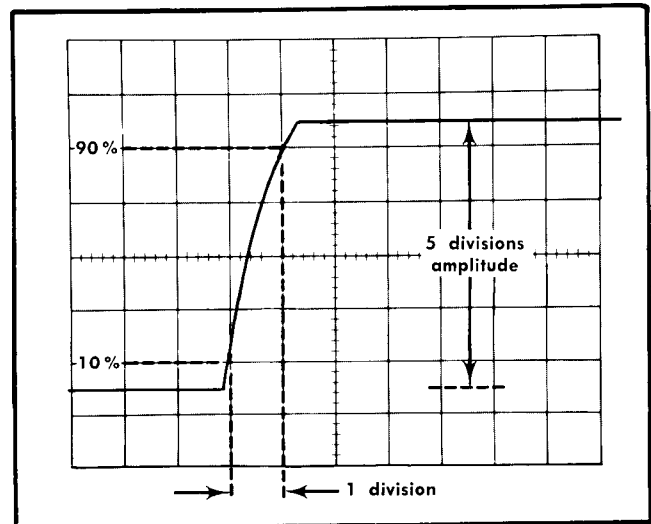

Fig. 5-19. Idealized waveform showing maximum allowable calibrator risetime at sweep rate of 1 μs/division.
- f. CHECK—CRT display for one division or less between the 10% and 90% points on the leading edge of the calibrator waveform (one microsecond, or less, risetime; see Fig. 5-19).